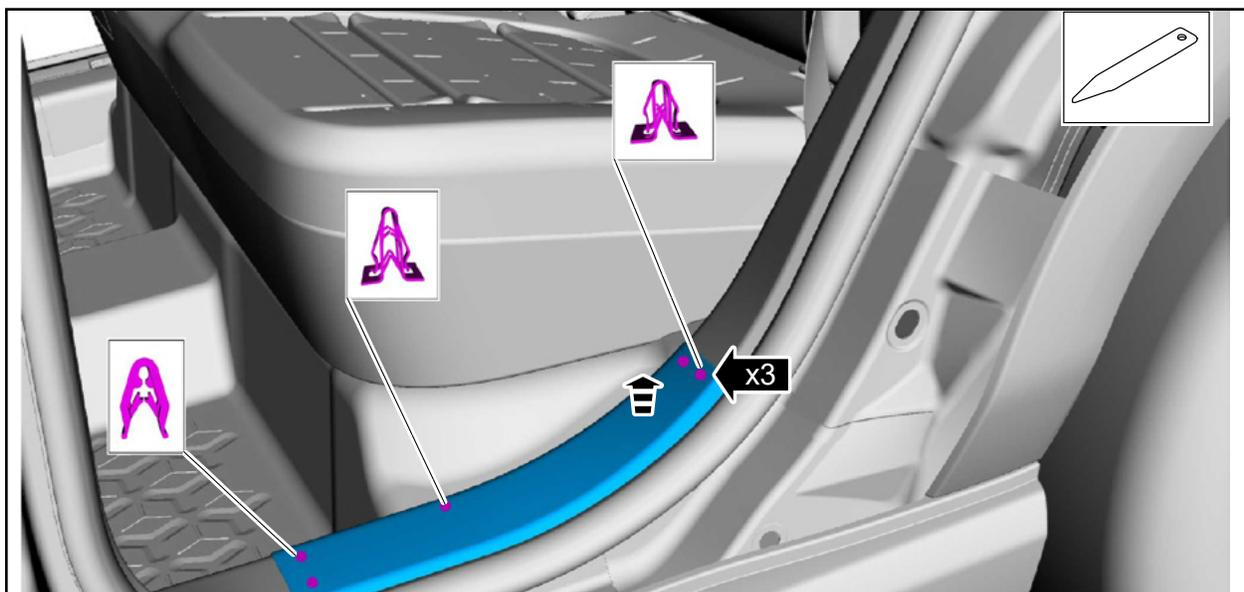

FIGURE 9
9. Remove the LH rear scuff plate trim panel. See Figure 9.